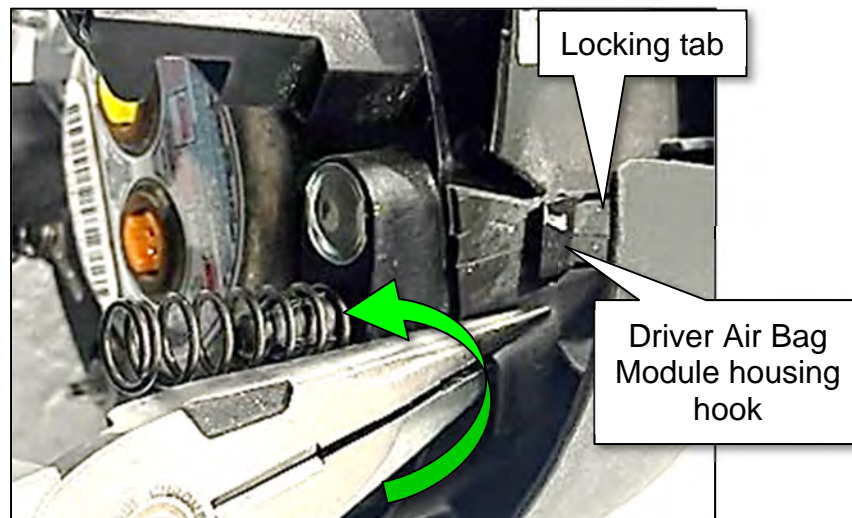

Figure 7
- Using a pair of suitable needle nose pliers, grab and pinch the cut hoop wall plastic next to the Driver Air Bag Module housing hooks and twist counter-clockwise to remove the cut plastic from under the Driver Air Bag Module housing hook, as shown in Figure 7.